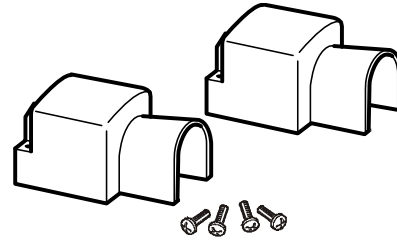

Figure 9 DC Terminal Covers
10. To protect the DC terminals, attach the DC terminal covers (Figure 9) to the inverter/charger, using the screws provided.